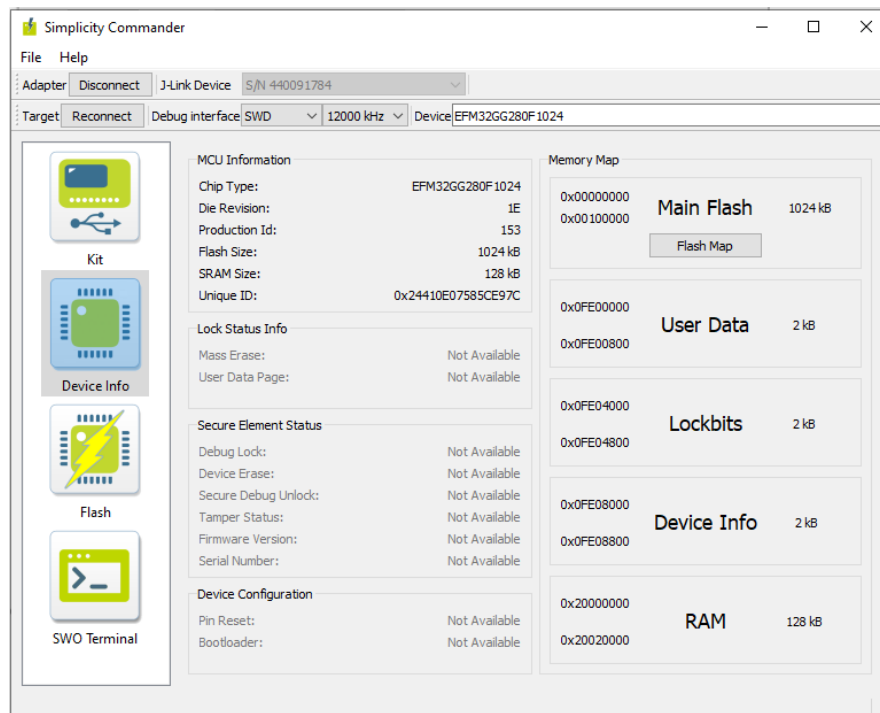

Figure 25 –Device Info Tab
7. The device type should automatically be detected. If not, ensure that the CubeStar is set up correctly according to sections 2.1 and 3.1. When navigating to the *Device Info* tab, all necessary information about the target chip should be displayed, as shown in Figure 25.